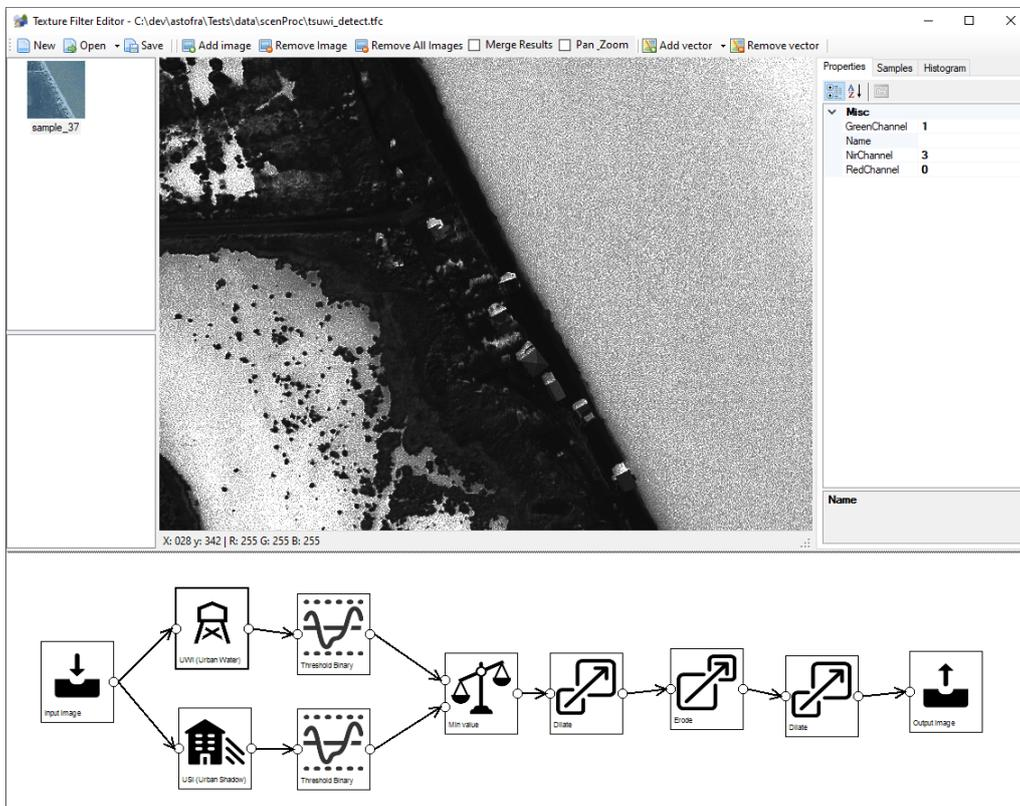

Figure 6.40: The UWI value calculated from the input image
2. Calculate the UWI value, see Figure 6.40.